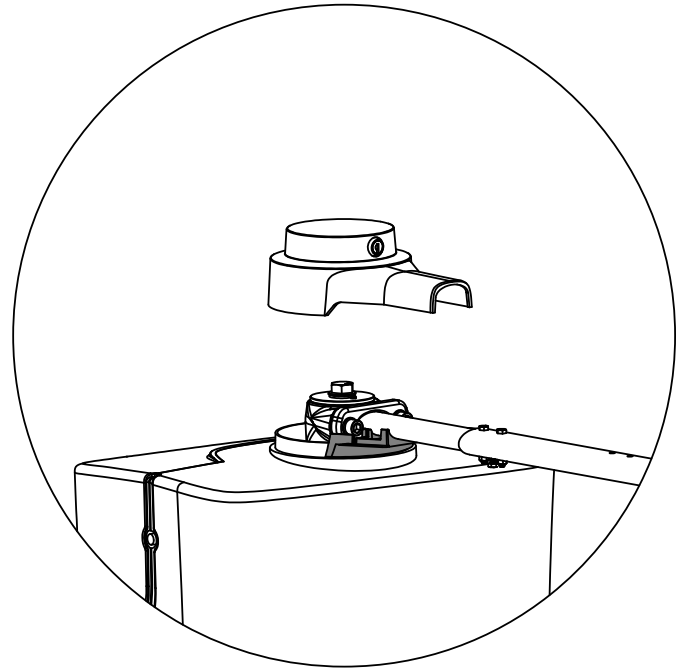

Figure 4. Center the Top Cap
6. Center the top cap over the taper clamp and operator arm. (Figure 4)